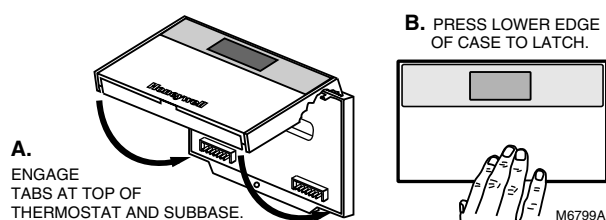

Fig. 10. Mounting thermostat on subbase.
1. Engage the tabs at the top of the thermostat and subbase. See Fig. 10.